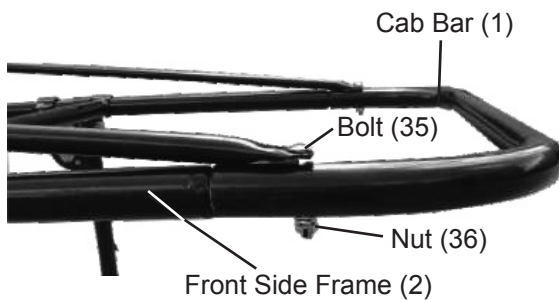

Figure 6
10. Slide ends of Cab Bar (1) over ends of Front Side Frames. Fasten Cab Bar to Frame tips using Bolts (35), Nuts (36), Spring Washers (37) and Flat Washers (38). See **Figure 6**, below.